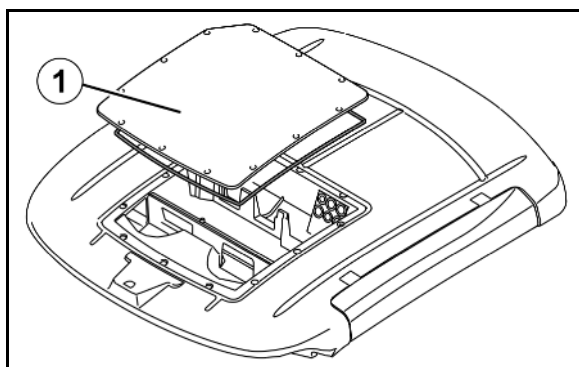

Fig. 195
2. Blow out the evaporator (Fig. 195/2) and warm water radiator (Fig. 195/3) with compressed air (maximum 5 bar).
3. Renew damaged seals (Fig. 195/1) under the cover.